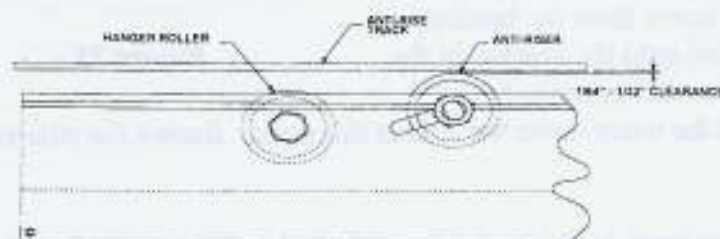

Figure 24
1. Loosen the hanger roller and anti-riser nuts with a 15/16 inch wrench (See Figure 24).